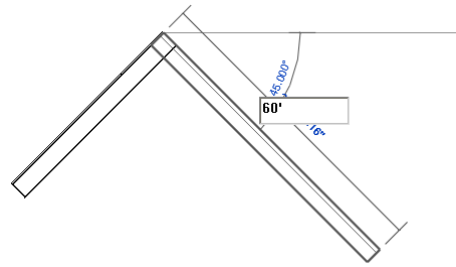

Figure 3-44 Sketching the second inclined wall segment
5. As the **Chain** button is chosen, the second wall segment will start from the last specified point. Now, move the cursor downward toward the right and right-click to invoke the shortcut menu. Next, choose **Snap Overrides > Perpendicular** from the shortcut menu displayed; the perpendicular snap symbol appears at the end of the wall. Enter **60' (18288 mm)**, see Figure 3-44; a wall is created perpendicular to the first inclined wall.